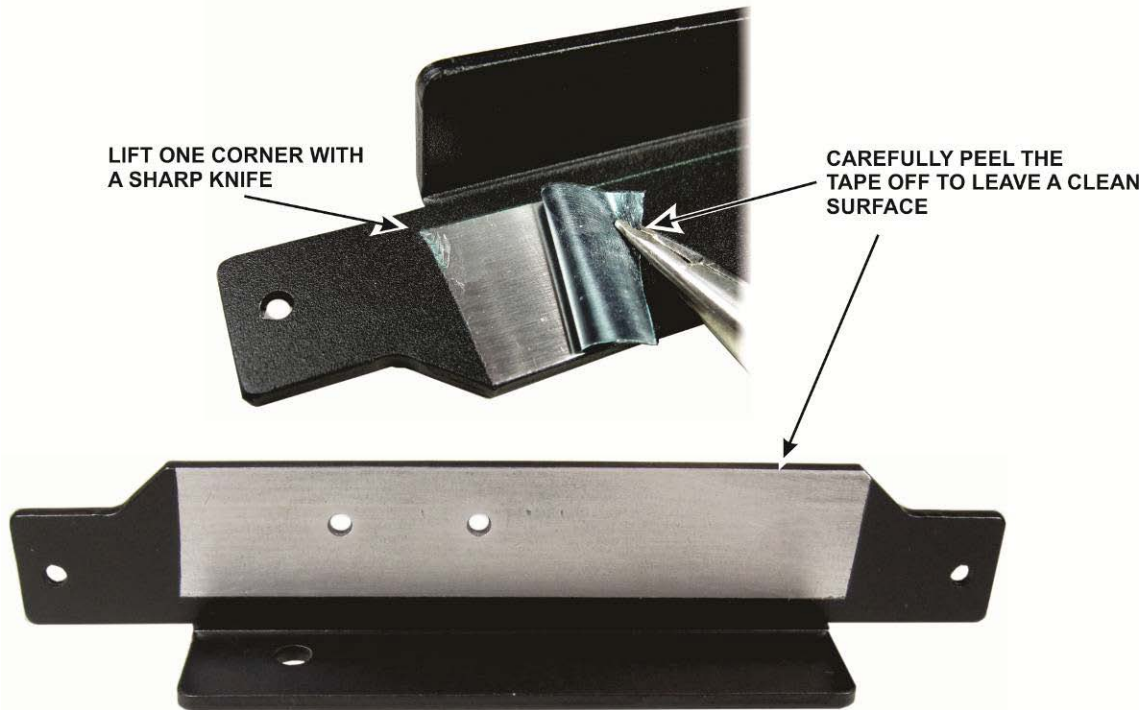

Figure 36. Removing Tape from the Heat Sink.
□ If you haven't done so already, remove the new heat sink from the paper wrapper. The side of the heat sink that will face the KX3 has been masked keep it free of the powder coating (see Figure 36). Remove the masking tape covering this area of the heat sink. The tape is strong. You can peel up one corner with a sharp tool and then pull the tape off of the metal as shown in the figure.